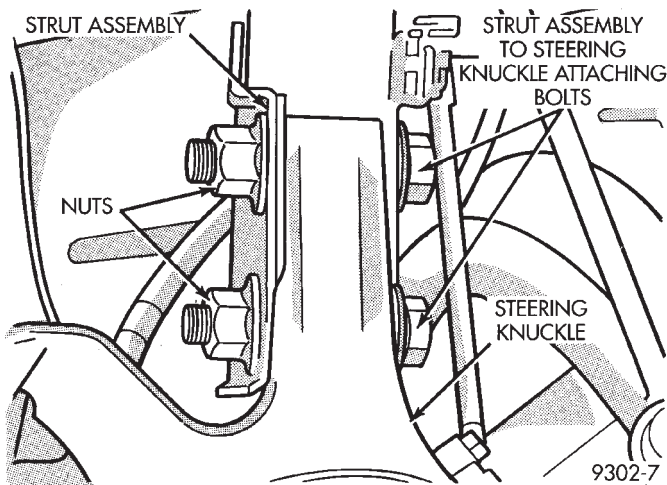

Fig. 5 Strut Assembly To Steering Knuckle Attaching Bolts
(7) Remove the strut assembly to steering knuckle attaching bolts (Fig. 5).
(3) Install the strut assembly to steering knuckle attaching bolts (Fig. 5). Install nuts on attaching bolts (Fig. 5). Torque the strut assembly to steering knuckle attaching bolt nuts to 169 N•m (125 ft. lbs.). **TURN NUTS ON BOLTS DO NOT TURN BOLTS.**